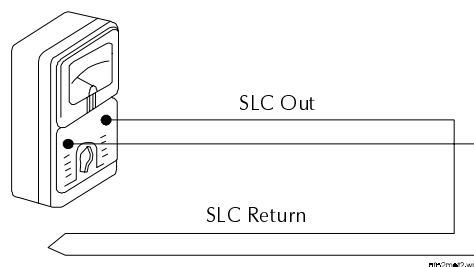

Figure 2-62 Meter Leads for Measuring a Four-wire SLC
The total DC resistance of the SLC pair cannot exceed 40 ohms. Measure DC resistance as shown in Figure 2-62.
3. Measure the resistance across the SLC Out leads (Figure 2-62).